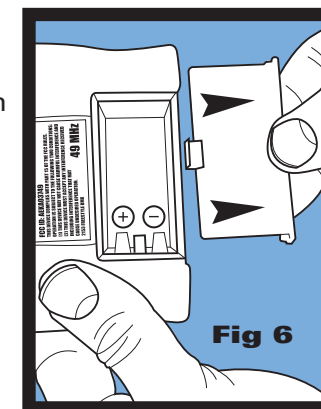

Fig 6
1. Slide open BATTERY DOOR on back of TRANSMITTER. (Fig. 6)